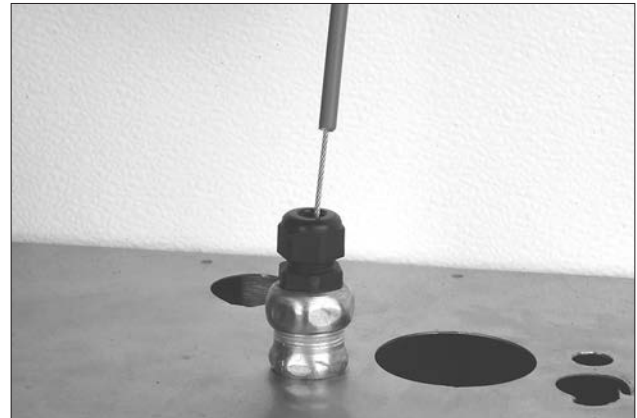

FIGURE 5-59
8. Thread the wire rope through the flexible conduit. See Figure 5-59. (If a splice is required in the flexible conduit, proceed to "Splicing Installation Instructions.")